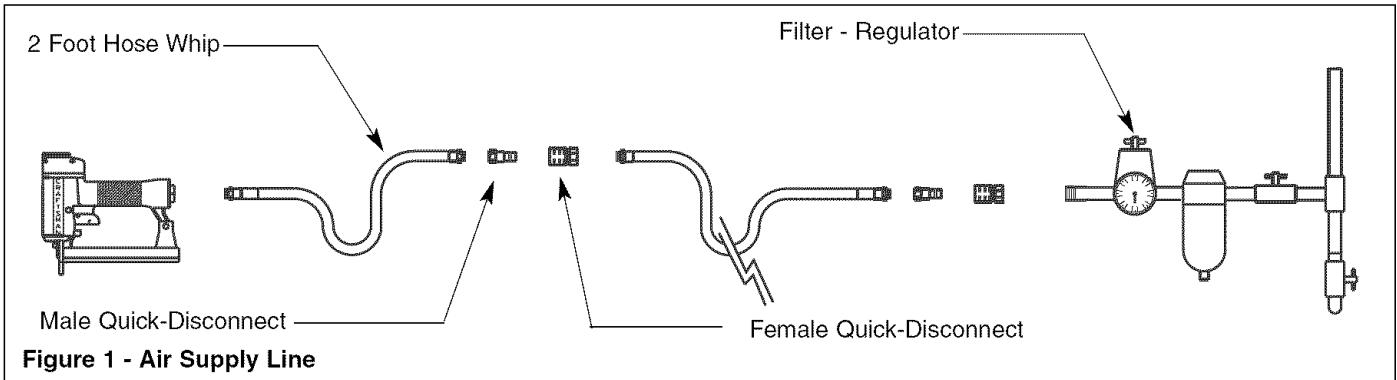

Figure 1 - Air Supply Line
Refer to Figure 1 (page 3).
- A filter-regulator system is required and should be located as close to tool as possible (see Figure 1, page 3). A distance of less than 15 feet is recommended.